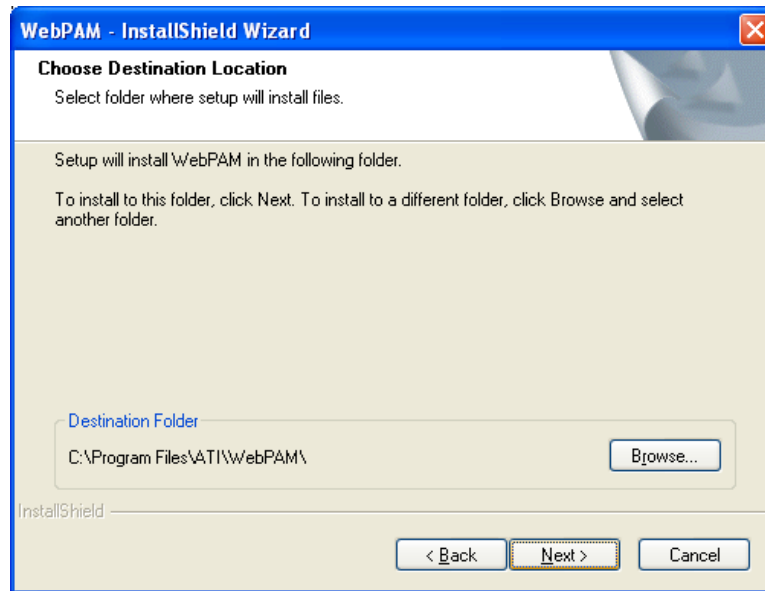

Figure 7-33: Select WebPAM Installation Destination
Step 13: The screen in **Figure 7-33** appears.